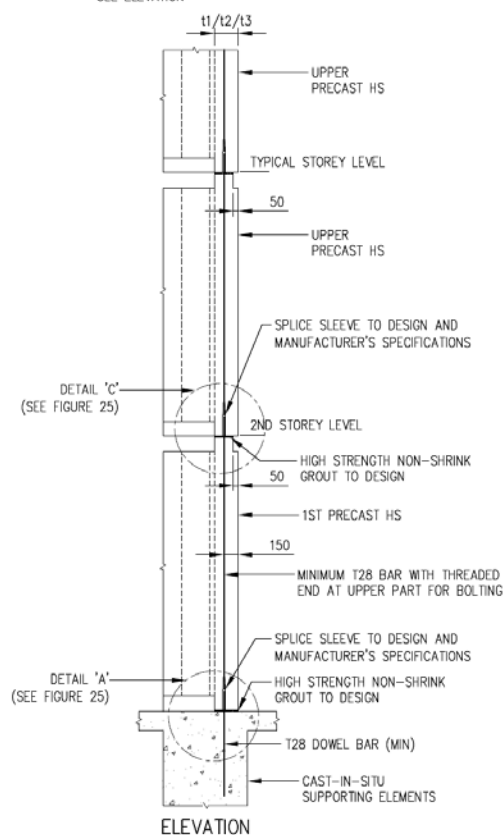

FIGURE 24A: SPLICE SLEEVE CONNECTION DETAILS
3. ALTERNATIVELY, SPLICE SLEEVE CONNECTION CAN BE USED FOR PRECAST HS TOWER (SEE FIGURE 24A, DETAIL A, DETAIL C AND SECTION 3-3).